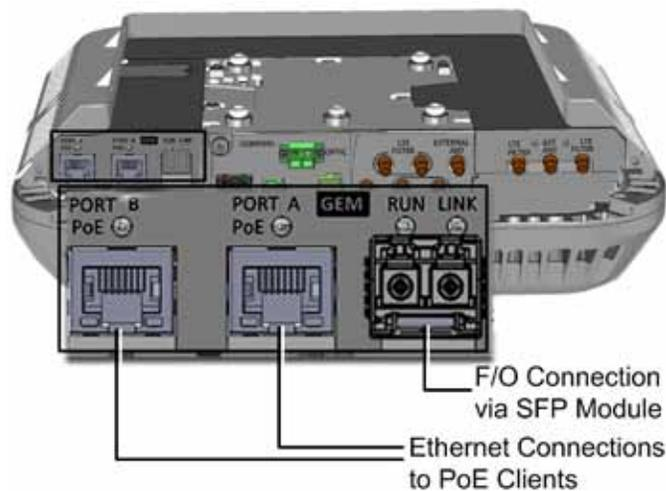

Figure 6-22. GEM Interface Ports and LEDs
- B. Connect the A and B Ethernet ports to the PoE clients using Ethernet cables. See Figure 6-22.